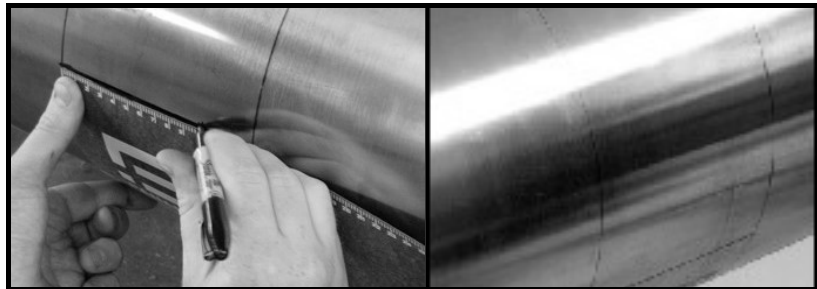

Figure 1-13: Marking the 3 o'Clock Position
3. Line up the zero scale of the layout tape at the desired location of the first transducer. (For a typical installation, this point will be the 3 o'clock position on a horizontal pipe.) Mark each of the two circumferential lines at the zero point. Connect each of these marks using a straight edge (for example, the edge of the layout tape) as shown in Figure 1-13 below.